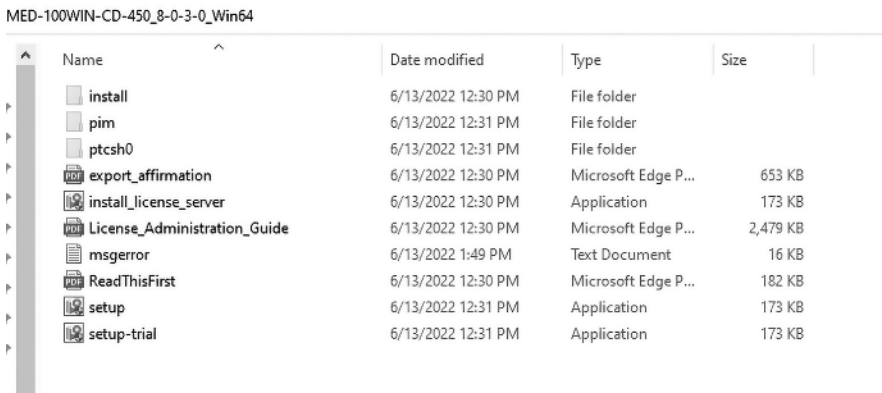

FIGURE 1.1 Creo Installation Folder
- Once the download complete, extract (unzip) the download folder → Click “Setup” (Figure 1.1)